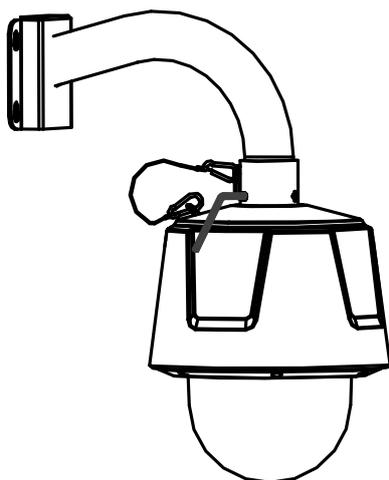

Figure 3-58 Secure the Speed Dome
- 5) Secure the two lock screws with the Allen wrench as shown in Figure 3-58.